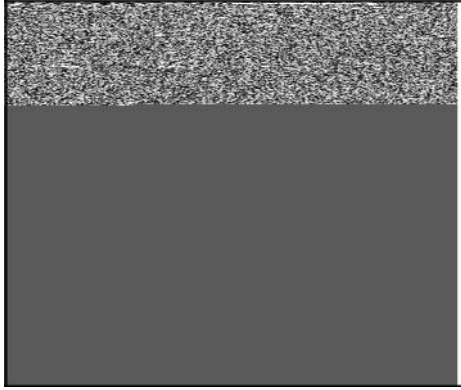

Figure 4
3. Inspect oil drain-back holes (**C**, Figure 4) to make sure they are open. Clean as needed.